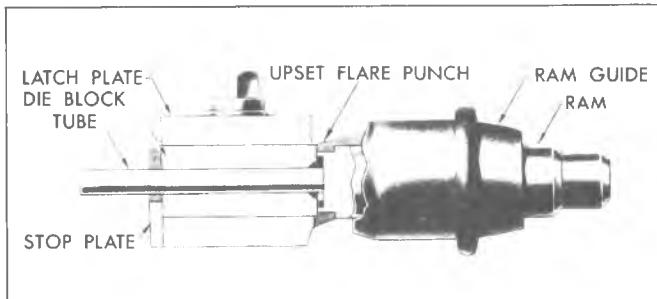

Fig. 37--Positioning Tube
- Slip the punch into the tool body with the gauge end toward the die blocks, install the ram and tap lightly until the punch meets the die blocks and they are forced securely against the stop plate (fig. 37).